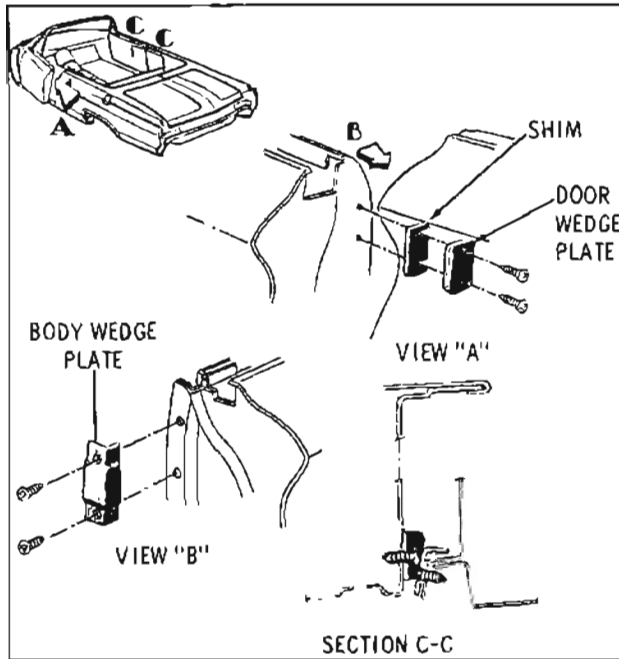

Fig. 16-36 Door Wedge Plates
1. Remove two screws securing wedge plate to body panel and remove wedge plate. (Fig. 16-36)